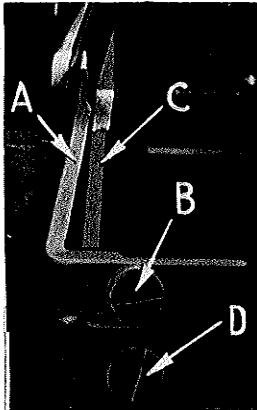

Fig. 7
Set rear needle guard (A, Fig. 7) as high as possible, without interfering with either lower looper or spreader or movement of lower knife holder, but still in position to deflect needle forward .002-.004 inch (.051-.102 mm). Screw (B) is used to set rear needle guard. Make sure there is no interference between rear needle guard and lower looper or spreader.
Assemble front needle guard (C, Fig. 7). When lower loopers are springing needle off rear guard, set front needle guard as close as possible to needle without touching. Screw (D) is used to adjust and set front needle guard. After this setting, make sure there is no interference between the needle guards and differential feed dog.